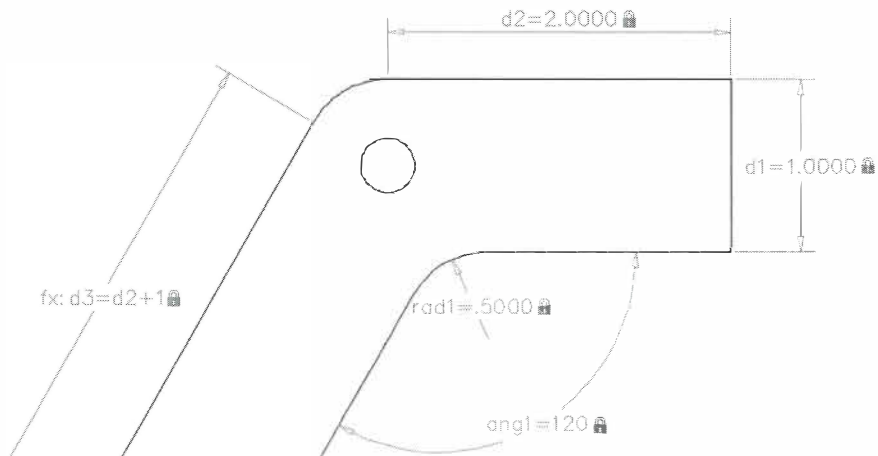

Figure 4-37
10. In the Dimensional panel, click  (Angular). Select the horizontal line at the bottom right and then the angular line at the bottom (left of arc), as shown in Figure 4-37. Set the dimension text value to **120**.